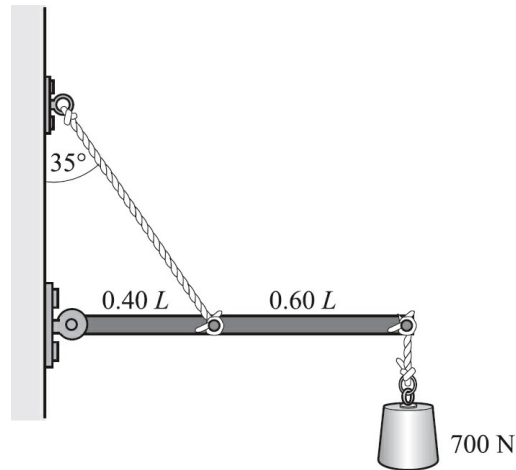

Fig. 5-15
- 5.24 [II]** The uniform horizontal beam illustrated in Fig. 5-15 weighs 500 N and supports a 700-N load. Find the tension in the tie rope and the reaction force of the hinge on the beam.